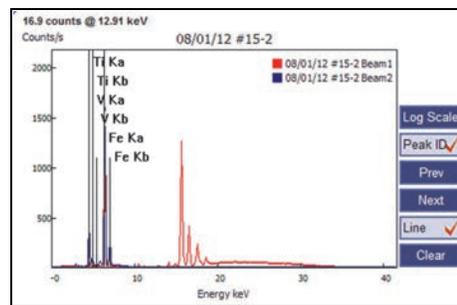

Figure 7-7 The Spectrum display showing Peak ID markers
- Use the **Next** and **Prev** buttons to move the emission line markers to different elements (see Figure 7-7 on page 100).